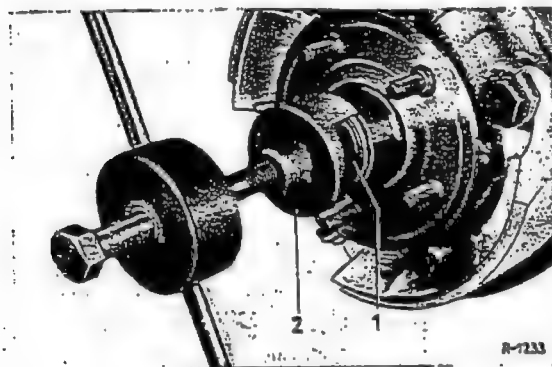

Fig. 33-5/1
1. Remove the brake drum, and in the case of the disk brakes remove the brake caliper (1) (see Fig. 33-5/4 and Job No. 42-7).
2. Pull the hub cap (1) off the front wheel hub by means of Puller 180 589 00 33 (Fig. 33-5/1).